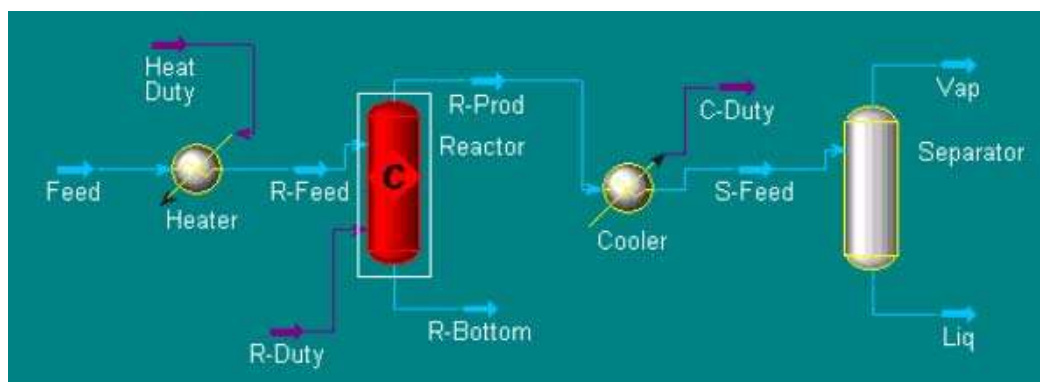

Figure 13-1
6. Name inlets and outlets of all process units as shown in *PFD* diagram on the Figure 13.1.